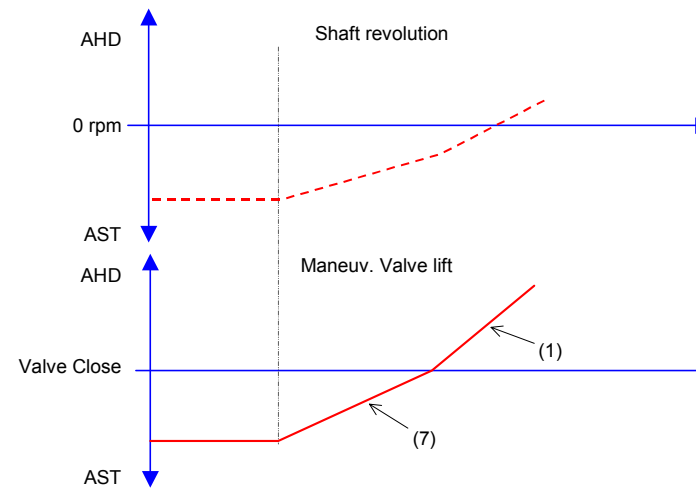

Figure 1-8 Manoeuvring Valve Lift In Reversing Operation (Astern to Ahead)
- i) The astern manoeuvring valve is closed in accordance with the deceleration (7) in Figure 1-8.